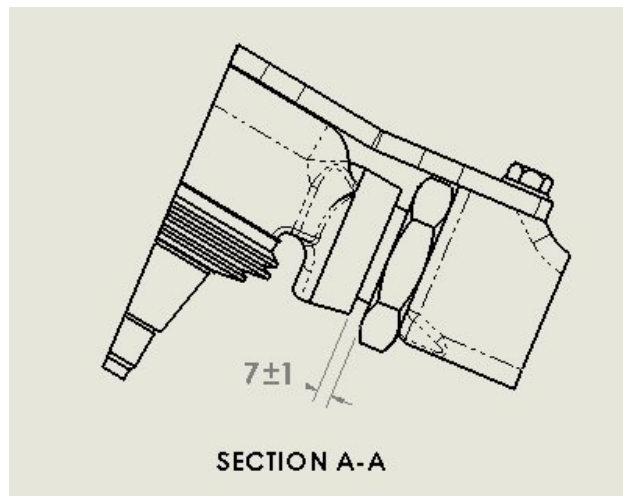

Fig. 1. Upper Control Arm Kingpin Setting
- 1.16 Heat upper control arm in kingpin thread area and remove kingpin and M50 nut. **NB: No more than 150 Deg. C should be applied locally to break the Loctite seal.** Apply Loctite 242 to kingpin thread. Fit kingpin to upper control arm and set the kingpin relative to the control arm to the 7 ± 1 mm dimension shown in Fig. 1 below. Tighten the M50 locknut to 1306 Lb. Ft. (1770 Nm) using the special 75 mm A/F spanner and the torque multiplier.